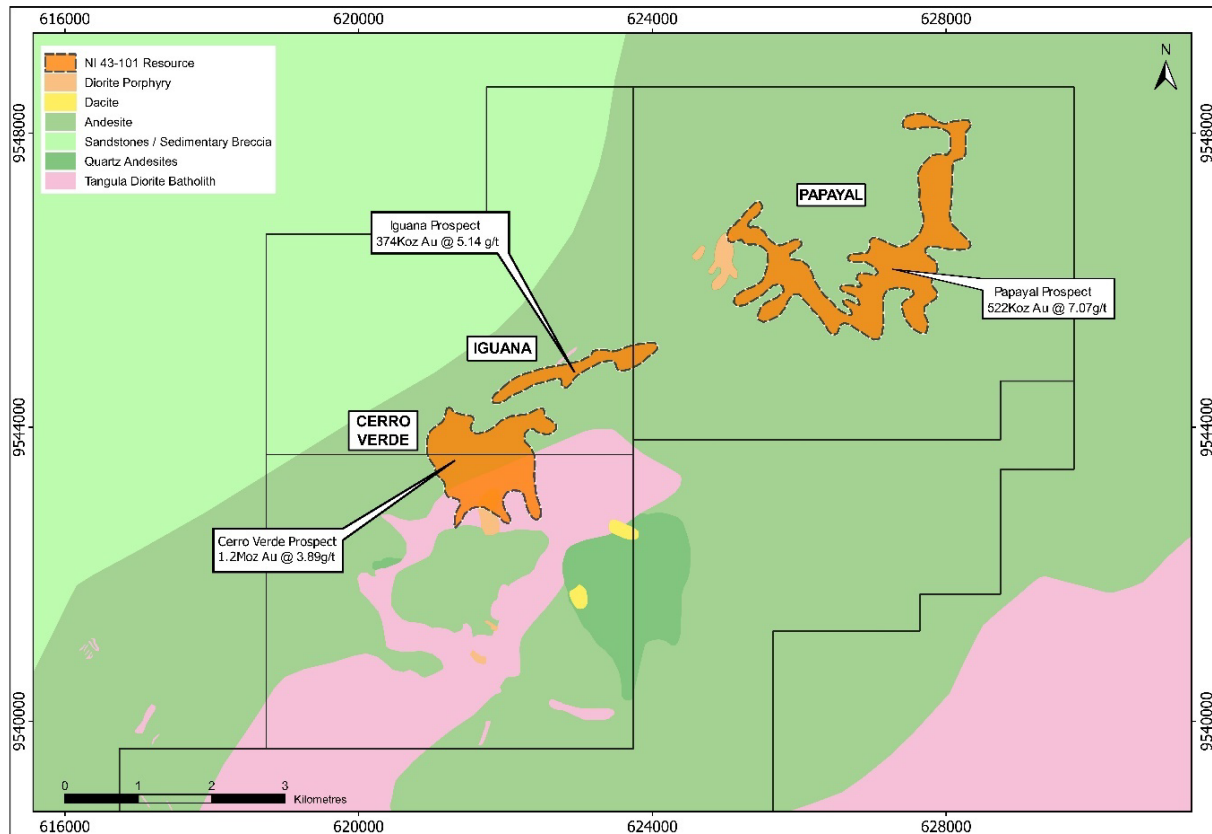

Figure 1: Location of Cerro Verde Prospect within overall Dynasty Project
The Dynasty Gold Project is an advanced stage exploration project comprising five (5) contiguous titles and 139km² in area. Three of these concessions received Environmental Authorisation in 2016 and are fully permitted for exploration and small-scale mining. Exploration works at the Dynasty Gold Project have outlined an extensive zone of epithermal veining over a nine (9) kilometres strike and over one (1) kilometre in width. Previous explorers had estimated a Canadian NI 43-101 resource estimate (referred to as a Foreign Resource) of 14.4 million tonnes at 4.5g/t gold and 36g/t silver. This resource estimate was compiled using a dataset of 1,160 trenches and 26,733 metres of diamond core. It was estimated by polygonal methods which are not yet considered JORC 2012 compliant. The foreign resource estimation was compiled using a dataset of 1,160 trenches and 26,733 metres of diamond drill core and essentially breaks the Project's 9 kilometres of the strike into three main prospects: Papayal; Iguana; and Cerro Verde (*refer to Figure 1*). The information in this announcement relating to Mineral Resource Estimates for the Dynasty Gold Project is a foreign estimate and is not reported in accordance with the JORC Code. A competent person has not done sufficient work to classify this foreign estimate as a mineral resource in accordance with the JORC Code and it is uncertain that following further exploration work this foreign estimate will be able to be reported as a mineral resource in accordance with the JORC Code (*refer to ASX announcement dated 30 April 2020 and Notes to Foreign Mineral Resource Estimate below*).